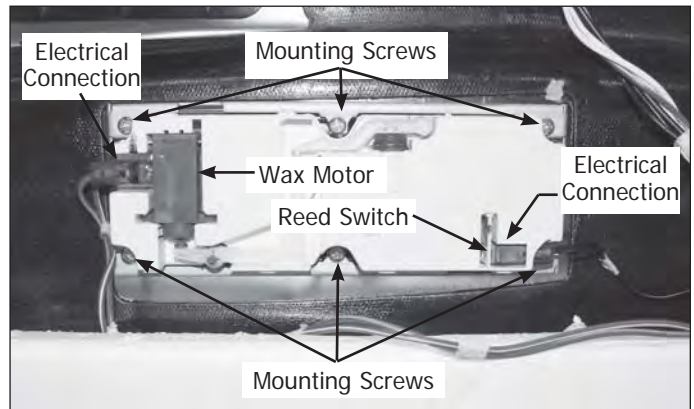

Figure 4-6.
3. Extract the six screws securing dispenser assembly to door panel. Remove mounting reinforcements from dispenser. (See Figure 4-6)